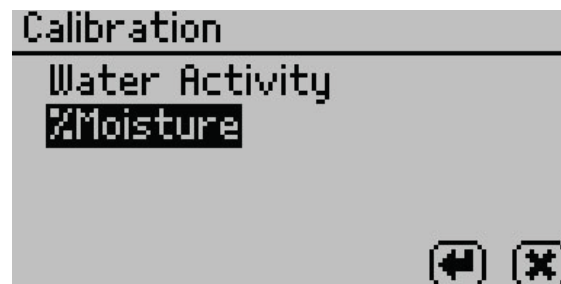

Figure 8 Select %Moisture on the Calibration tab
8. Select %Moisture from the list of calibration types (Figure 8).